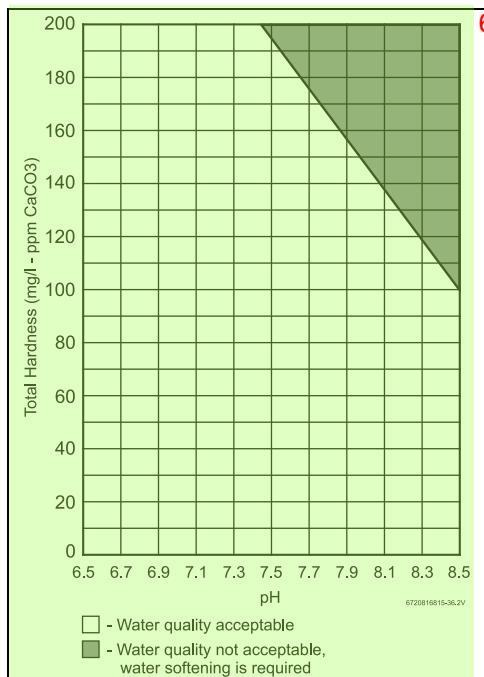

Fig. 26 Water total hardness and pH values 7
Water quality can have an impact on appliance longevity. Water supplied to the Greentherm T9900 SE/i must be in accordance with table 17 and fig. 26.
For water analysis data call your local water department, or if on a well, have well water analyzed periodically. Heavy scale will form if the combination of water total hardness and pH exceeds the values specified in fig. 26 (grey area), Bosch recommends consulting a local water treatment professional for water softening-conditioning options.
- 2 1. Total Harness and pH maximum values must be evaluated in combination. Indicated maximum values will be reduced according to fig. 26.